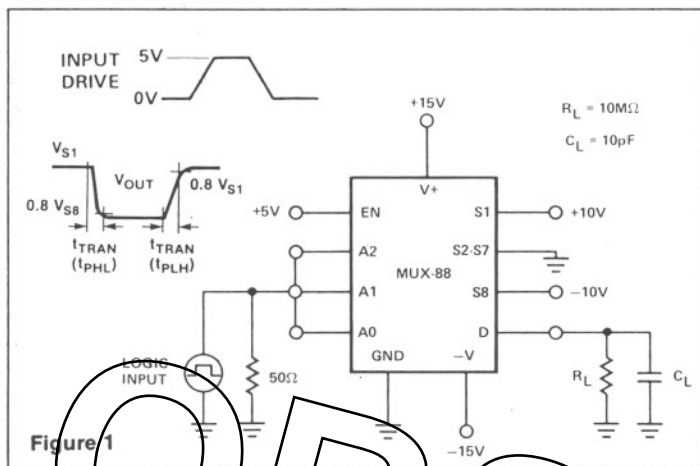

Figure 1
- Sample tested. The measurement conditions of Figure 1 insure worst case transition time.
Voltage = 5V/Div, Time = 1µs/Div, See Transition Time Circuit of Figure 1.
Voltage = 500mV/Div, Time = 1µs/Div, See Transition Circuit of Figure 1.
Voltage = 500mV/Div, Time = 1µs/Div, See Transition Time Circuit of Figure 1.
When operating with negative input voltages, the gate-to-channel diode will be turned on if the voltage drop across an ON switch exceeds  $-0.6V$ . While this condition will cause an error in the output, it will not damage the switch. In lab tests, the multiplexer output load capacitor has increased to  $0.01\mu F$  in the Transition Time circuit, Figure 1. With  $V_{S1} = -10V$  and  $V_{S8} = +10V$ , the logic input was driven at a 1kHz rate. The positive-going slew rate was  $0.3V/\mu sec$  which is equivalent to a normal  $I_{DSS}$  of 3mA. The negative-going slew rate was  $0.7V/\mu sec$  which is equivalent to a "reverse"  $I_{DSS}$  of 7mA. Note that when switch 1 is first turned ON it has a drop of  $-20V$  across its terminals. In spite of that fact, the current is limited to approximately twice its normal  $I_{DSS}$ .